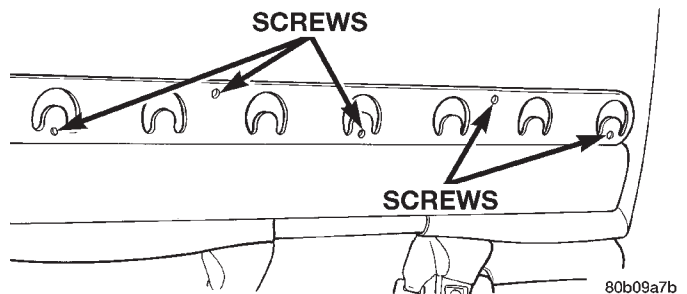

Fig. 34 Plastic Grocery Bag Retainer
- (1) Remove five screws attaching the plastic grocery bag retainer to the steel slates on the back frame (Fig. 34).
- (2) Remove retainer.